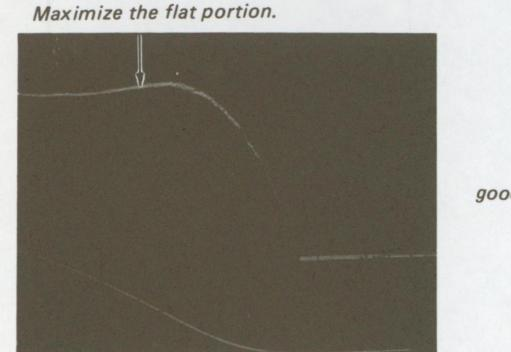

Fig. 5-48.
8. Turn L6 for the adjustment of the group delay characteristic of the R-Y low pass filter. (See Fig. 5-48.) (Make the flat section extend as much as possible.)